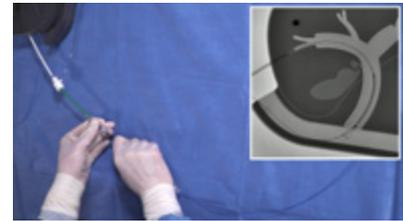

Figure 4
- Device deployment: Hold the black inner shaft (steady in place) and pull back on outer green sheath/do not push the black inner shaft (see *Figure 4*).